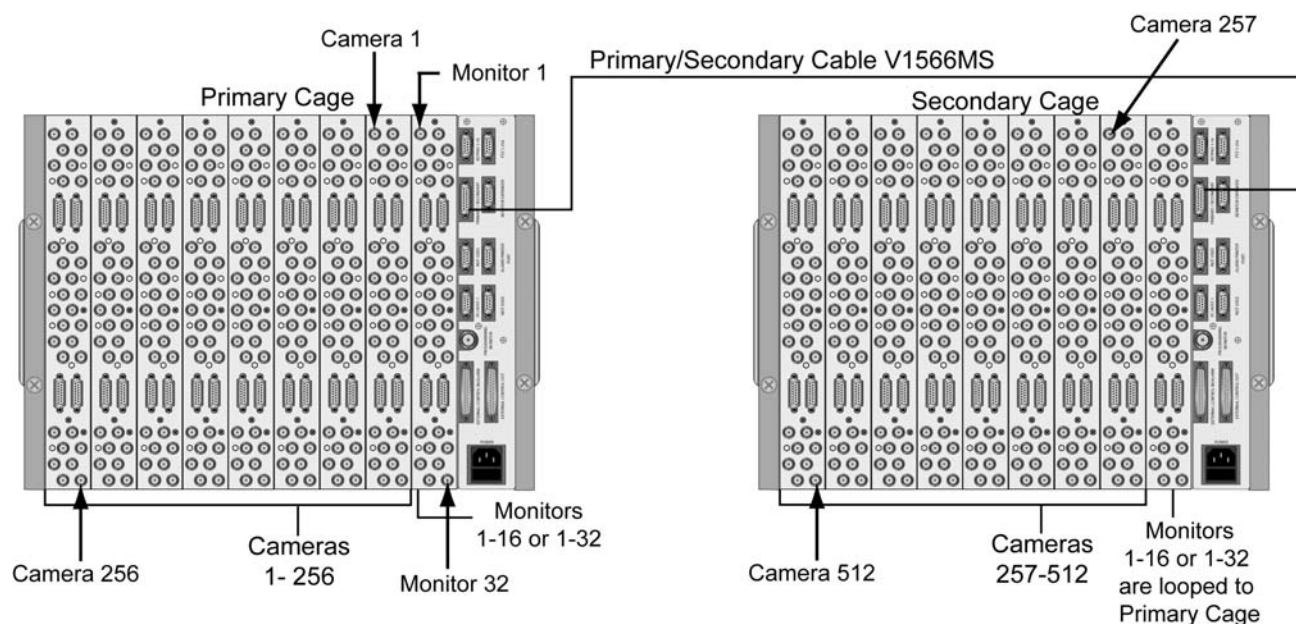

Figure 10: Typical Two-Cage Installation – Camera Expansion
2. Connect cameras 257 through 512 to the camera BNC panels on the Secondary Cage as described in the *Camera and Monitor Connections* section. Note where camera 257 and camera 512 are connected as shown in Figure 10.